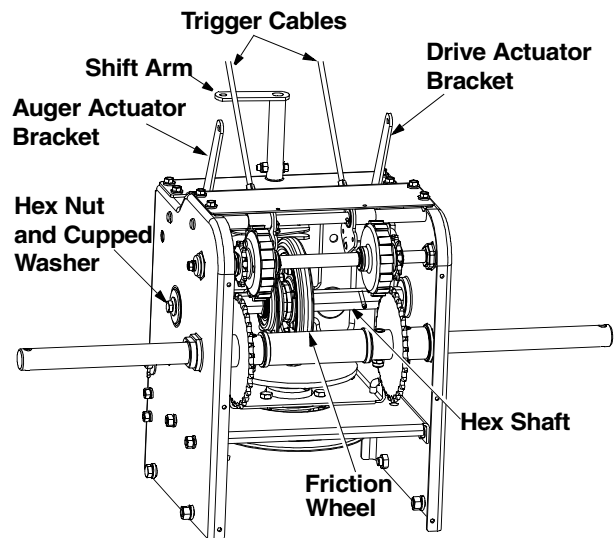

Figure 22
- Remove six screws from the frame cover underneath the snow thrower. Refer to Figure 22.